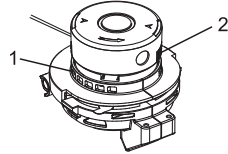
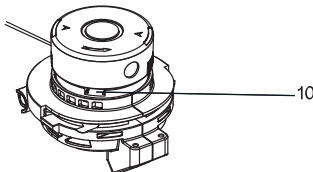

Fig. 10
Fig. 14
1. Press the spool locking buttons (1) & (2) on each side of the spool (Fig.10).
4. Thread the loose end of the trimmer line (6) through the hole (7) in the spool housing (2).
5. While holding, pull slightly to tighten the line, and then slide it into the spindle (8) until it bottoms out.
6. Once the replacement spool is fully inserted into the spool housing, replace the spool cap (3) by inserting the locking buttons (1) into the spool housing.
7. Press the spool cap fully into the spool housing until the locking buttons "click" into the matching holes (9) in the spool housing.
8. When the new trimmer line spool is installed, approximately 3" /7.6 cm of trimmer line should be exposed beyond the spool housing. If it is too long, cut it to length with scissors. If it is too short, press the line release button (10) on the trimmer line housing and gently pull on the exposed trimmer line (Fig. 14).
Press the line release button (10) on the trimmer line housing and gently pull on the exposed trimmer line until 3" /7.6 cm of line is exposed beyond the spool housing (Fig. 14).
Remove the spool from the spool housing, unwind approximately 3" /7.6 cm of line and reinstall the spool (Fig.10 through Fig. 14).
Remove the spool from the spool housing, unwind all the trimmer line from the spool and rewind the trimmer line onto the spool (Fig.10 through Fig. 14).